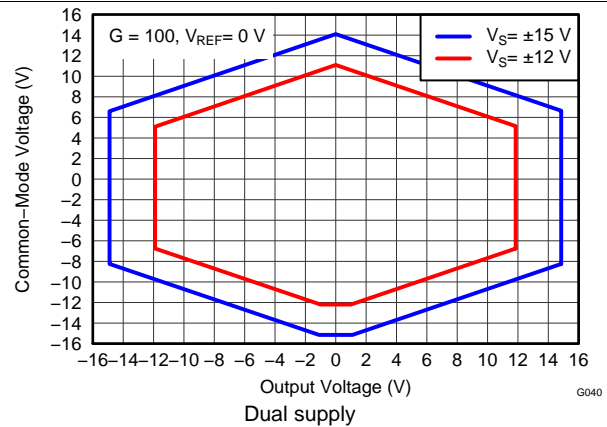

Figure 16. Input Common-Mode Voltage vs Output Voltage
(1) Total offset, referred-to-input (RTI): $V_{OS} = (V_{OSI}) + (V_{OSO} / G)$.
(2) Input voltage range of the INA826 input stage. The input range depends on the common-mode voltage, differential voltage, gain, and reference voltage. See *Typical Characteristic* curves Figure 9 through Figure 16 and Figure 41 through Figure 44 for more information.